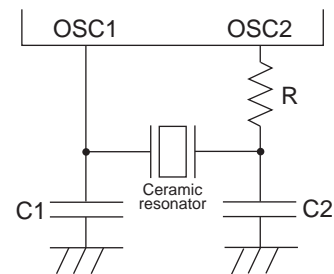

Figure 3 Ceramic Resonator Oscillation Circuit
- (*1) When oscillated internally under the oscillating conditions in Figure 3, up to the oscillation amplitude generated is allowable.